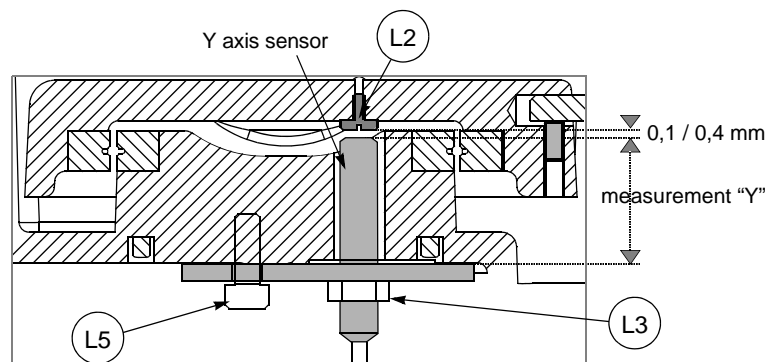

Fig. 54
- Loosen the screw (L5) and remove the sensor plate (fig. 54, page 60).